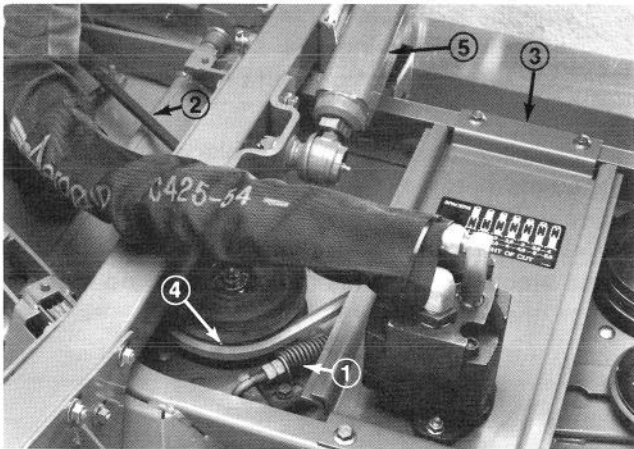

Figure 63
3. Remove flange head screws securing gearbox plate to deck. To separate plate and drive motor assembly from deck, rotate plate end toward traction unit (Fig. 63). Tip plate, motor and pulley assembly on its side and remove from deck. Be careful not to bend, twist, kink or damage flexible hydraulic lines.
3. Remove flange head screws securing gearbox plate and separate plate and drive motor assembly from the deck (Fig. 63). Be careful not to bend, twist, kink or damage flexible hydraulic lines.
4. Remove hex head screws and flange locknuts securing each lift arm to the castor arm and separate from the arm (Fig. 63).